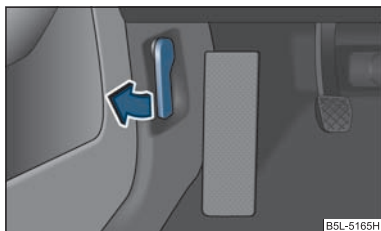

Fig. 164 Bonnet release lever
- Pull the unlocking lever below the dash panel on the left-hand side ⇒ fig. 164.
- Unlock the bonnet ⇒ fig. 164.